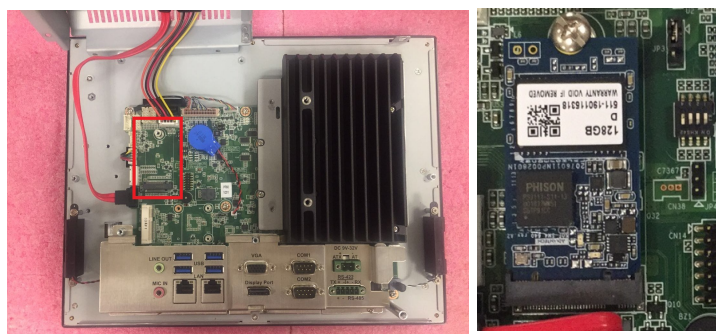

Figure 2.14
2. Plug the M.2 into the mainboard interface, and remove the 2 M2.5x4 screws from the accessory box to attach (see Figure 2.14).